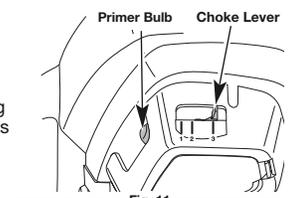
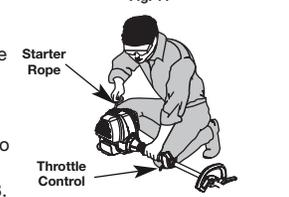

Fig. 11
Fig. 12
**WARNING:** Avoid accidental starting. Make sure you are in the starting position when pulling the starter rope (Fig. 12). To avoid serious injury, the operator and unit must be in a stable position while starting.
3. Fully press and release the primer bulb 10 times, slowly. Some amount of fuel should be visible in the primer bulb (Fig. 11). If fuel cannot be seen in the bulb, press and release the bulb until fuel is visible.
4. Place the choke lever in **Position 1** (Fig. 11).
5. Crouch in the starting position (Fig. 12). Press the throttle lockout in and squeeze the throttle control lever. Pull the starter rope 5 times.
6. Place the choke lever in **Position 2** (Fig. 11).
9. While continuing to squeeze the throttle control, place the choke lever in **Position 3** (Fig. 11) and warm for an additional 60 seconds. The unit may be used during this time.
**IF...** the engine hesitates, return the choke lever to **Position 2** (Fig. 11) and continue warm-up.
4. Move the choke lever to **Position 1** (Fig. 11).
5. Crouch in the starting position (Fig. 12). Place the electric starter or power start bit into the back of the unit. Refer to the Operation section of the Electric Starter or Power Start Bit operator's manual.
6. Press the throttle lockout in and squeeze the throttle control lever. Press and hold the electric starter or drill ON (I) button for 2 seconds.
7. Move the choke lever to **Position 2** (Fig. 11).
8. Squeeze the throttle control lever, press and hold the electric starter or drill ON (I) button for 2-second intervals until the unit starts.
10. Continue squeezing the throttle control, move the choke lever to **Position 3** (Fig. 11) and run the unit for an additional 60 seconds. The unit may be used during this time.
**IF...** the engine fails to start after a few attempts, place the choke lever in **Position 3** and squeeze the throttle control. Press and hold the electric starter or drill ON (I) button for 2-second intervals until the unit starts.